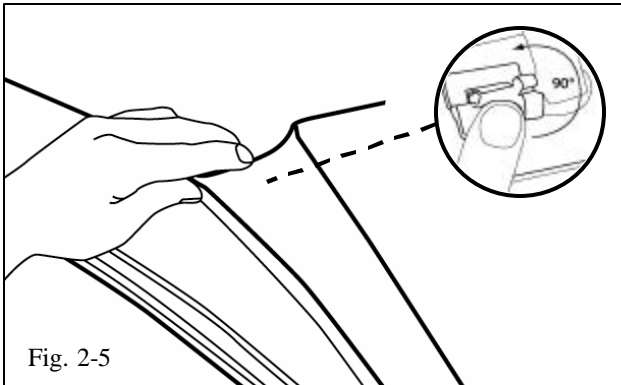

Fig. 2-5
- (e) Remove driver-side A-pillar trim. (Fig. 2-5)
- (1) Pull top of A-pillar trim out.
- (2) Rotate A-pillar trim retainer 90° and disengage from A-pillar trim.
- (3) Pull base of A-pillar trim out towards rear of vehicle to remove.